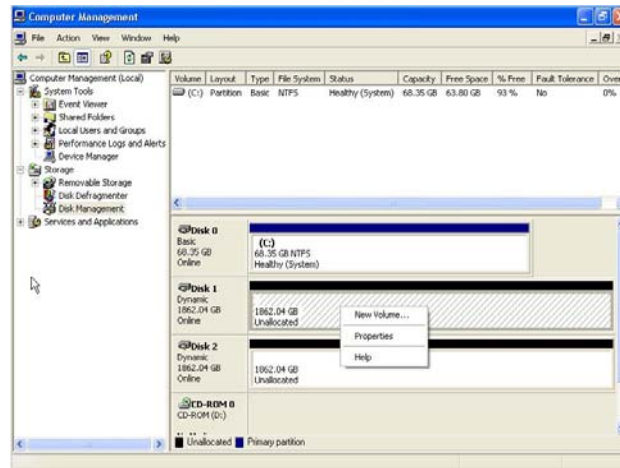

FIGURE 6-20. Computer Management Screen, Showing “New Volume...” Selected.
8. Right-click anywhere within the Disk 1 area, below the black bar, and select “New Volume...” in the pop-up menu. See Figure 6-20.